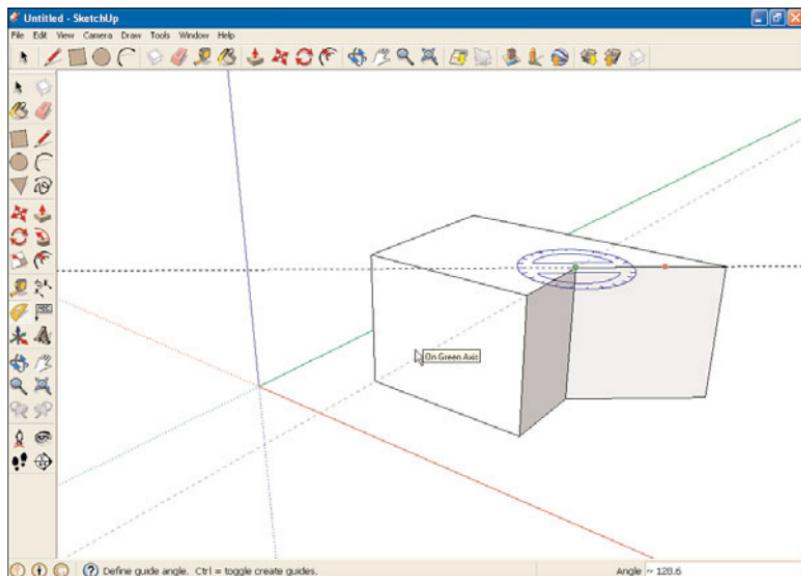

FIGURE 10.12 Measuring an angle.
13. Click the other edge that makes up the angle. Two dotted lines extend from the protractor, measuring the angle, as you see in Figure 10.12.